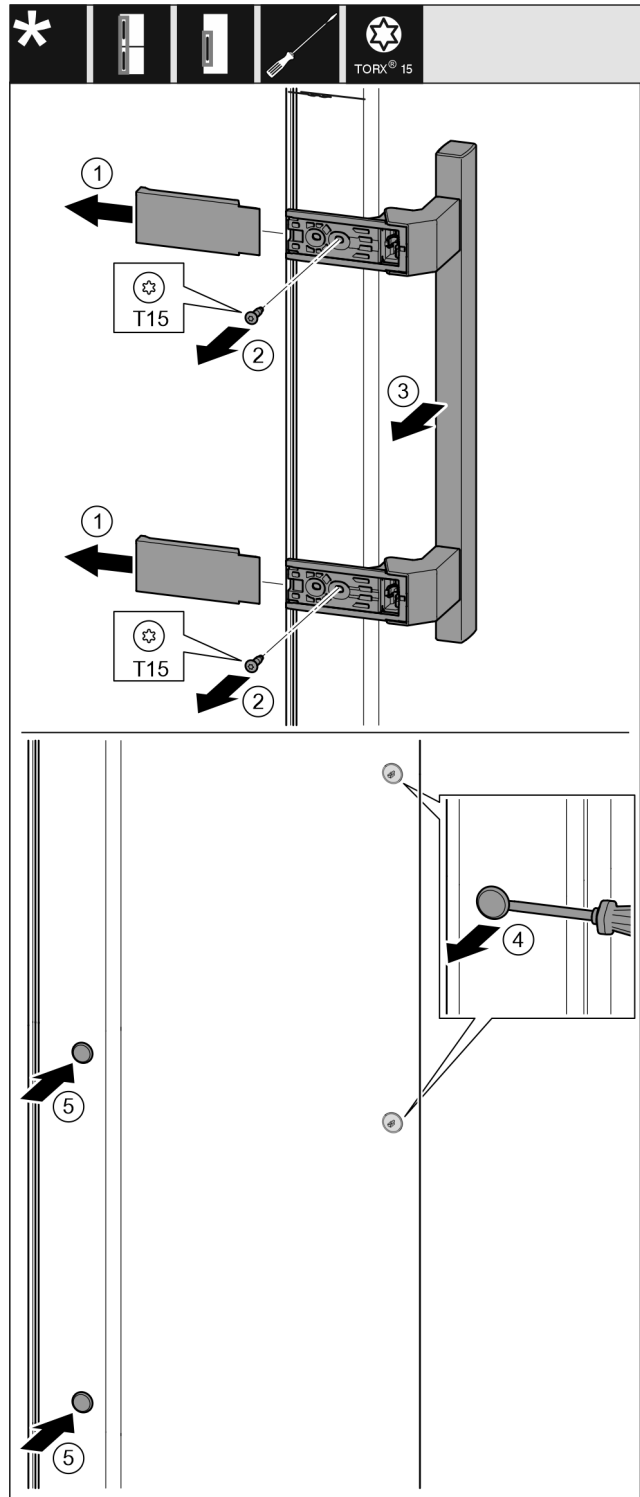

Fig. 11
- ▶ Pull off the cover. Fig. 11 (1)
- ▶ Unscrew the screws with a Torx 15 screwdriver. Fig. 11 (2)
- ▶ Take off the handle. Fig. 11 (3)
- ▶ Carefully lift the side plug with a slotted screwdriver and pull it out. Fig. 11 (4)
- ▶ Replace the plug on the other side. Fig. 11 (5)